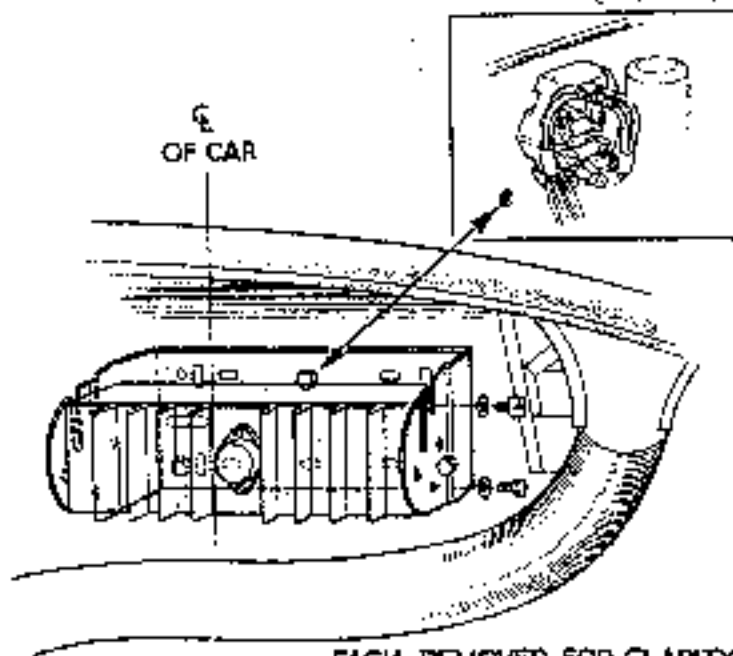

Fig. 2.
2. Remove rubber plugs from the three holes provided in the bulkhead near centre line of car. (The location is illustrated in Fig.2. inset).
3. Secure the amplifier mounting bracket as shown in Fig.2. using the fixings provided.
4. Mount amplifier unit in bracket using the fixings provided as shown in Fig.2.